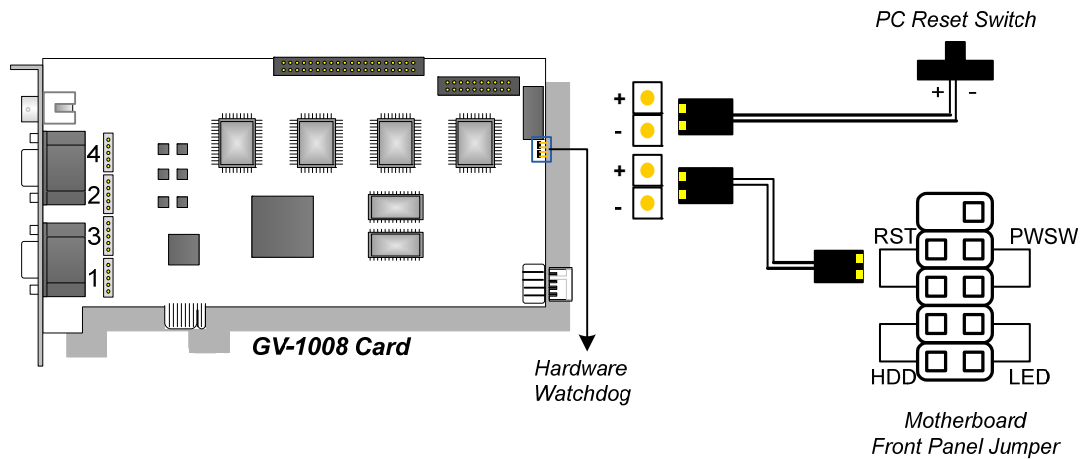

Figure 1-21
- Connect the supplied Hardware Watchdog Jump Wire (Figure 1-21).
- **Hardware Watchdog Connection:** Connect the supplied Hardware Watchdog Jump Wire to the Master Card only (Figure 1-21).